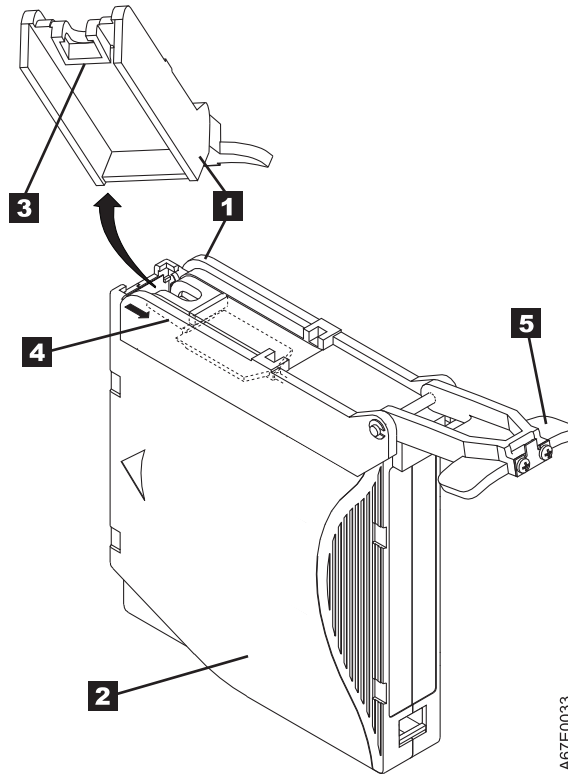

Figure 147. Attaching the leader pin attach tool to the cartridge. To hold the cartridge door open, hook the tool into the door and pull the tool back.
1. Attach the leader pin attach tool (**1** in Figure 147 on page 178) to the cartridge **2** so that the tool's hook **3** latches into the cartridge's door **4** . Pull the tool back to hold the door open, then slide the tool onto the cartridge. Open the tool's pivot arm **5** .